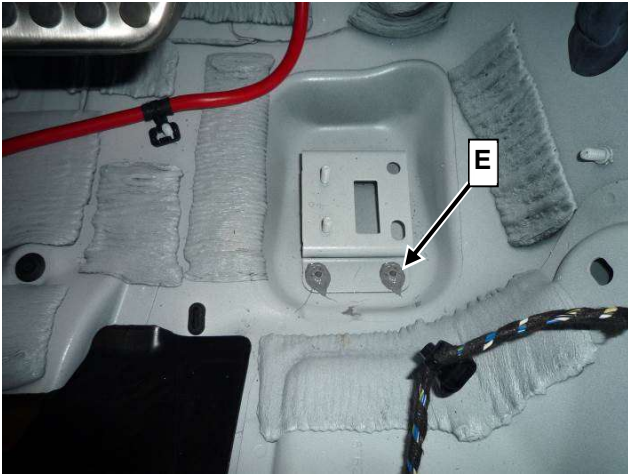

Figure 7
- Then the right-side (**Figure 7, E**) must be drilled and riveted.